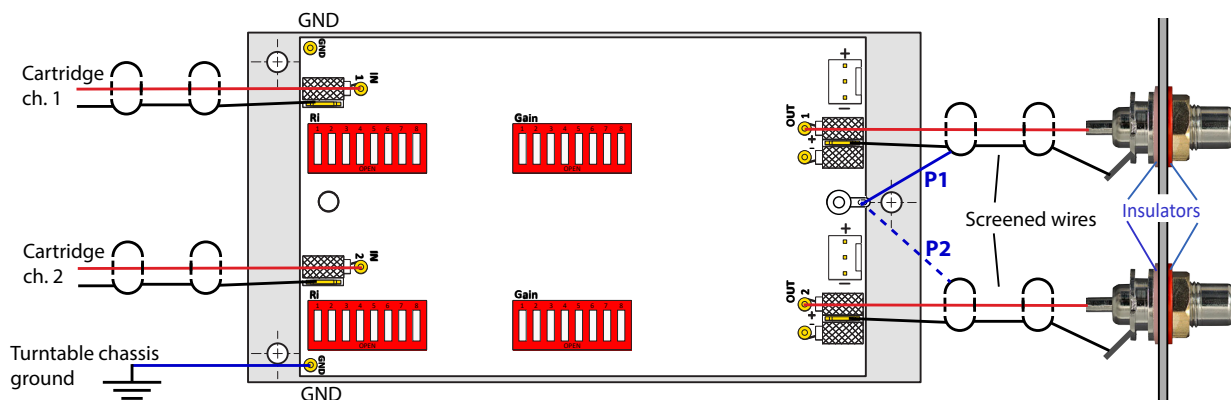

Fig. 8. Mounting CT100 into a non-metal enclosure/turntable.
CT100 can be built into a turntable so that the sensitive audio signal from the cartridge can be wired to CT100 with short wires or screened cables in order to protect the original audio signal from noise interference. This configuration enables the turntable to deliver a balanced (2 Volts) or unbalanced (1 Volt) audio signal directly to preamplifiers etc. Fig. 8 shows installation into a non-metal enclosure/turntable.
5. Connect (solder) the turntable's "Earth" wire to one of the CT100 GND pins. See Fig. 8 below. ("Earth" is connected to the tonearm and/or the turntable's metal chassis).